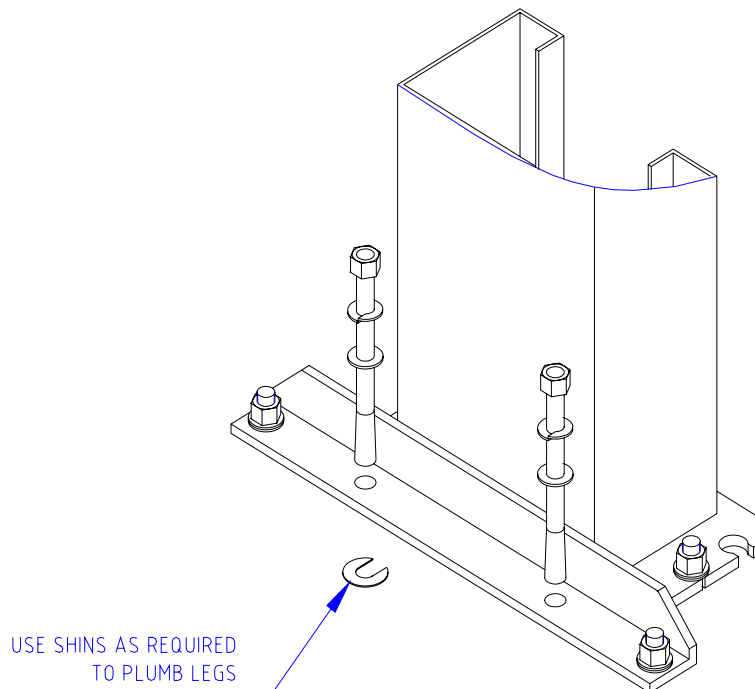

Figure 9
- F. Using a level, plumb the mainside leg both side to side and front to back. Shim the leg as necessary next to and on both sides of the anchor bolts, figure 9. If more than **1/2" of shimming** is required, **do not** use the anchors and shims provided with the lift. Use longer anchors and fabricate larger shims from steel flat, **1/4" or 1/2" thick by 2", or more, wide.**